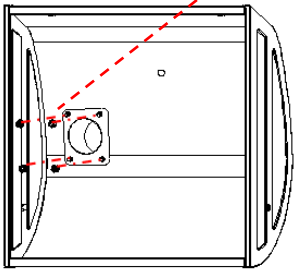
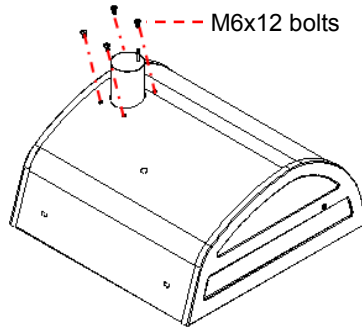

Fig. 20A
Fig. 20B
*Locate:* Charcoal Grill Lid, (1) Heat Indicator, (1) Lid Handle, Smoke Stack Assembly, Smoke Stack Lid, (1) M6x12 bolts, (2) M6x15 bolts, (4) M6 KEPS nuts, (1) M6 cap nut and (1) Spring
Attach the Smoke Stack Assembly to the Charcoal Grill Lid using (4) M6x12 bolts and (4) M6 KEPS nuts as shown as Fig. 20A and Fig. 20B.